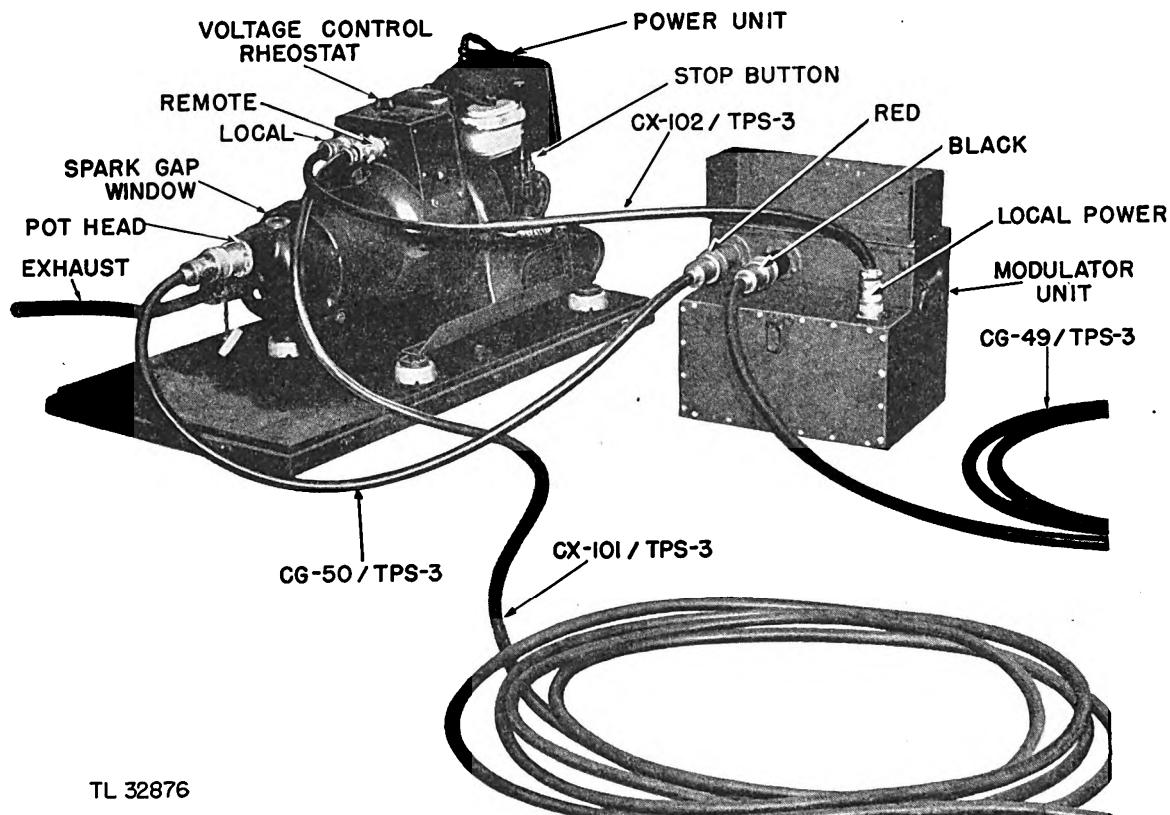

Figure 3. Power unit and modulator.
*f. Power Unit.* A standard power unit (fig. 3) PU-6/TPS-1, is used to generate 115-volt, 400-cycle, alternating current and 24-volt direct current. See TM 11-933. The generator is driven by a single cylinder, two cycle, gasoline engine. The 115-volt, 400-cycle output is supplied to the high-voltage transformer in the modulator and to the power-supply transformer in the receiver. The 24-volt d-c output is supplied to the relay, antenna, and fan motors. The power unit also contains the rotary spark gap used to discharge the pulse-forming line in the modulator.
*g. Receiver.* (1) **GENERAL DESCRIPTION.** The receiver consists of a two stage r-f amplifier, a crystal converter or mixer, a six-stage, broad-band i-f amplifier, a diode detector, and a single-stage video amplifier. An intermediate frequency of 30 megacycles is used.
*h. Indicator Unit.* (1) **GENERAL.** The indicator unit consists of a five-inch, electrostatic deflection, cathode-ray tube ("A" scope), a seven-inch magnetic deflection cathode-ray tube (PPI tube), sweep circuits associated with the cathode-ray tubes, and range-marker circuits. The sweep circuits are arranged to produce sweeps for ranges of 20, 60, and 120 miles. Range markers appear for every 10 miles of range, and every fifth range marker is accentuated. The sweeps and range markers are triggered the instant the transmitted pulse occurs.